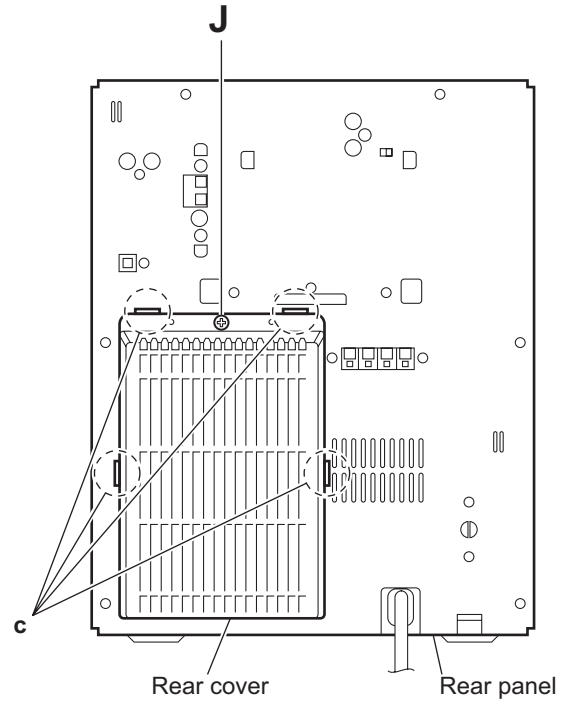

Fig.10
### 3.1.5 Removing the rear panel (See Figs.10 and 11)
- (1) From the back side of the main body, remove the screw **J** attaching the rear cover. (See Fig.10.)
- (2) Release the sections **c** and remove the rear cover from the rear panel. (See Fig.10.)